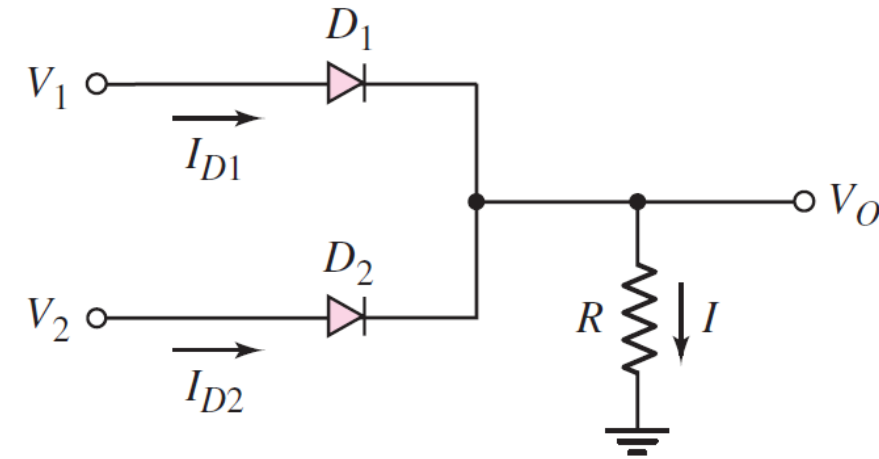

Figure 2.41
- The circuit of Figure 2.41, then, is a **two-input diode OR logic circuit**.